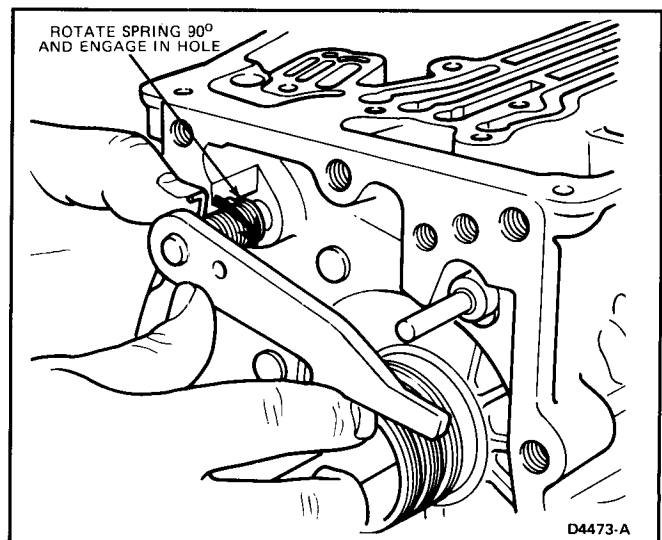

FIG. 14 Parking Pawl Spring—Installation
- Install the parking pawl onto the shaft and set spring tension by rotating leg of spring 90 degrees into the hole in the pawl (Fig. 14).